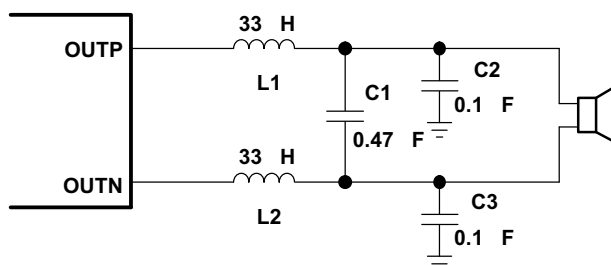
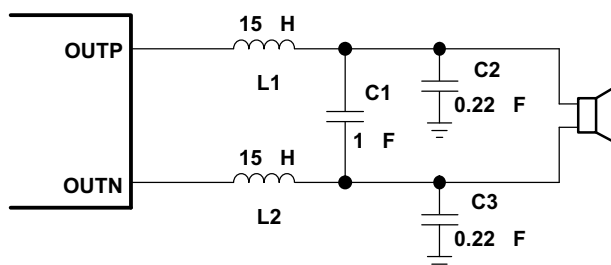
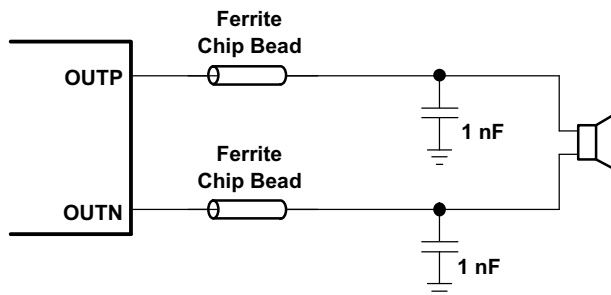
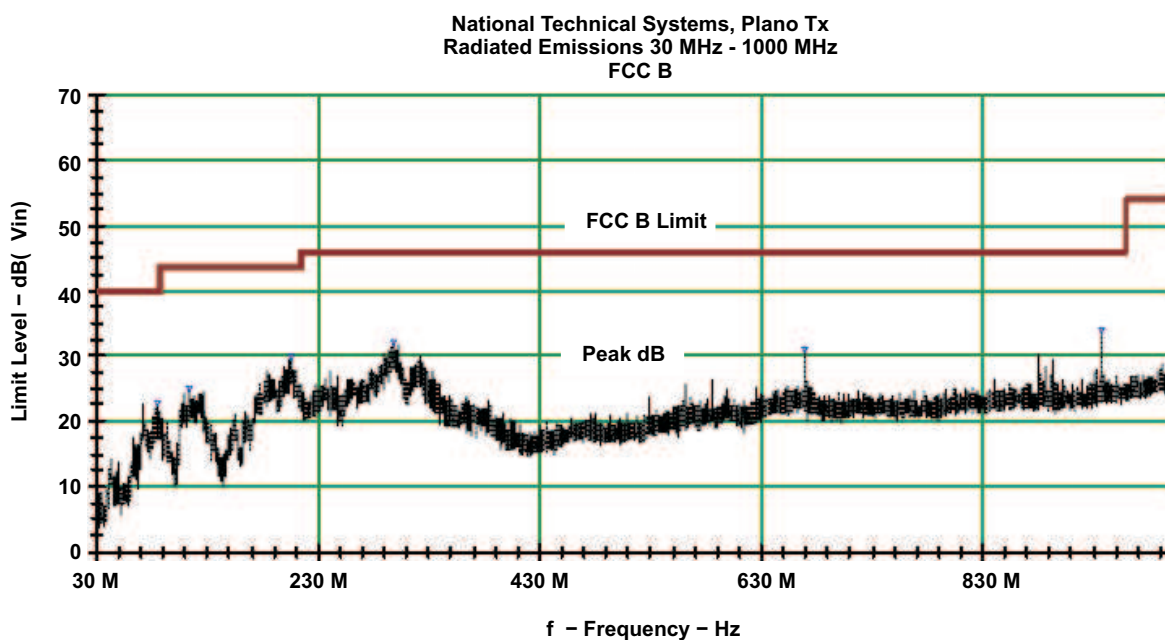

Figure 27. Typical LC Output Filter, Cutoff Frequency of 27 kHz, Speaker Impedance = 8 Ω
Figure 28. Typical LC Output Filter, Cutoff Frequency of 27 kHz, Speaker Impedance = 4 Ω
Figure 29. Typical Ferrite Chip Bead Filter (Chip Bead Example: Fair-Rite 2512067007Y3)
Figure 30. Radiated Emissions Prescan 30 MHz - 1000 MHz
Using the LC filter in Figure 27, the TPA3101D2 EMI EVM passed the FCC Part 15 Class B radiated emissions with 21 inch speaker wires. Quasi-peak measurements were taken for 4 configurations, and the TPA3101D2 EMI EVM passed with at least a 5.6-dB margin. A plot of the peak measurement for the horizontal rear configuration is shown in Figure 30.
- **Output filter**—The ferrite EMI filter (Figure 29) should be placed as close to the output terminals as possible for the best EMI performance. The LC filter (Figure 27 and Figure 28) should be placed close to the outputs. The capacitors used in both the ferrite and LC filters should be grounded to power ground. If both filters are used, the LC filter should be placed first, following the outputs.